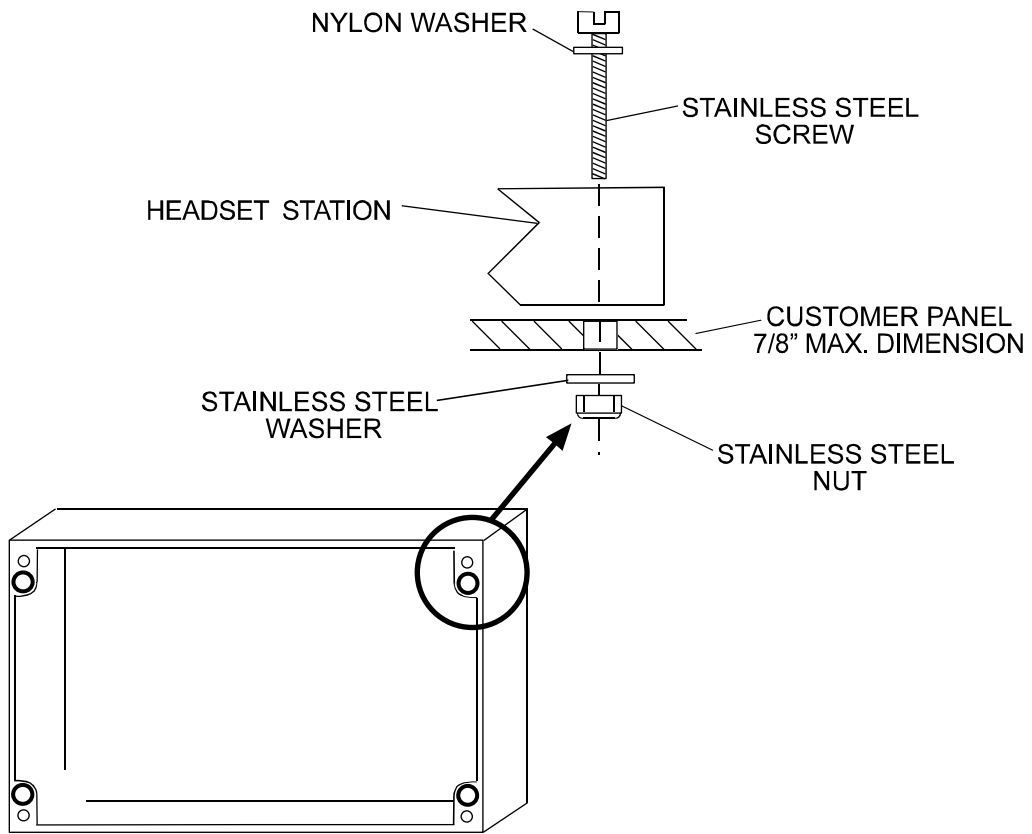

Figure 2: Headset Station Mounting Diagram
- q Using a Philips screwdriver, remove the 4 screws on the cover of the Headset Station and lift off the cover. Observe the 4 mounting holes in each corner, as shown in **Figure 2**.
- q On the backside of the mounting wall, use the flat washer, lock washer, and lock nut provide to secure the Headset Station (**Figure 2**).